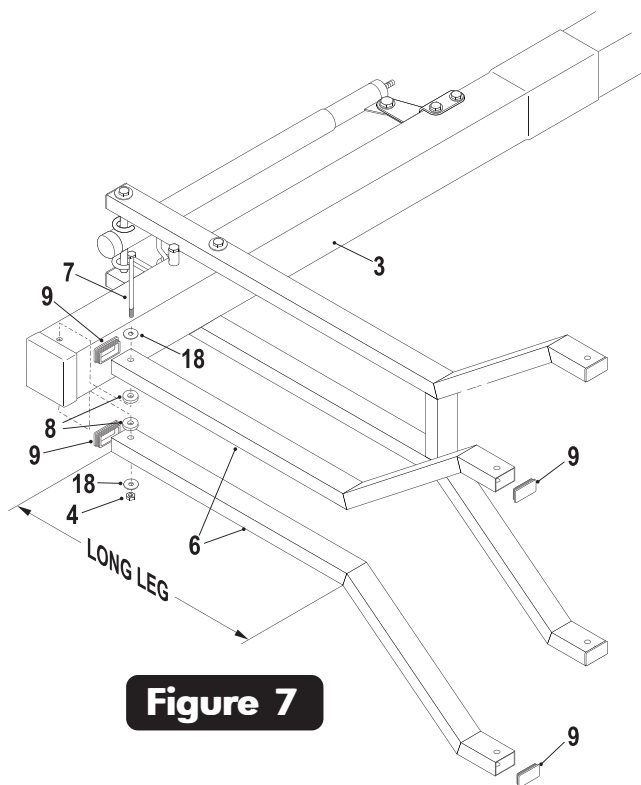

Figure 7
11. Attach long leg of Upper Arms (#6) to Top Pole (#3), as shown in Figure 7, using a bolt (#7), two flatwashers (#18), two spacers (#8) and one lock nut (#4).